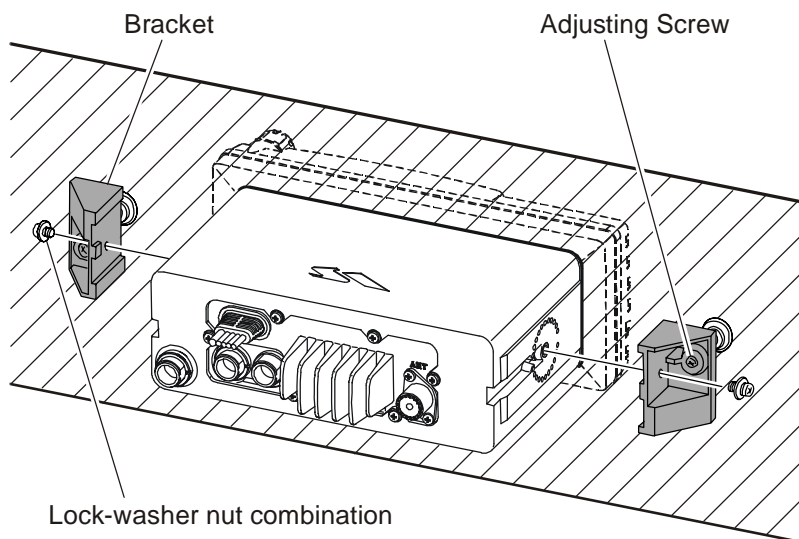

Figure 2. MMB-84 Flush Mount Installation
4. Fasten the brackets to the sides of the transceiver with the lock washer nut combination; so that the mounting screw base faces the mounting surface (see Figure 2).